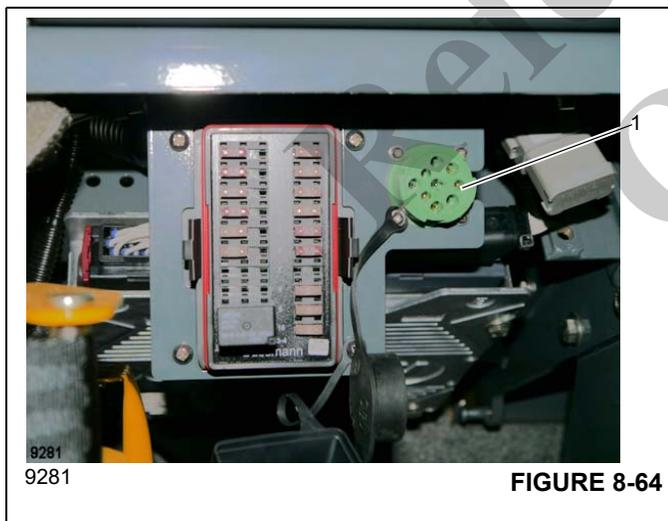
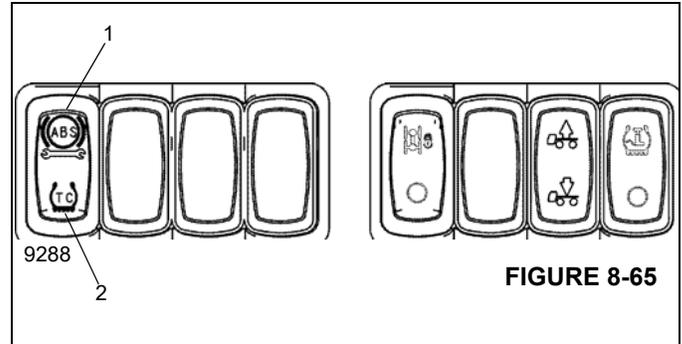

FIGURE 8-64
FIGURE 8-65
The 9-pin on board diagnostic connector (1), (Figure 8-64) is located under the dashboard to the left of the steering column. The ABS diagnostic switch (1), (Figure 8-64) is located near the lower left of the control panel as shown in (Figure 8-65).